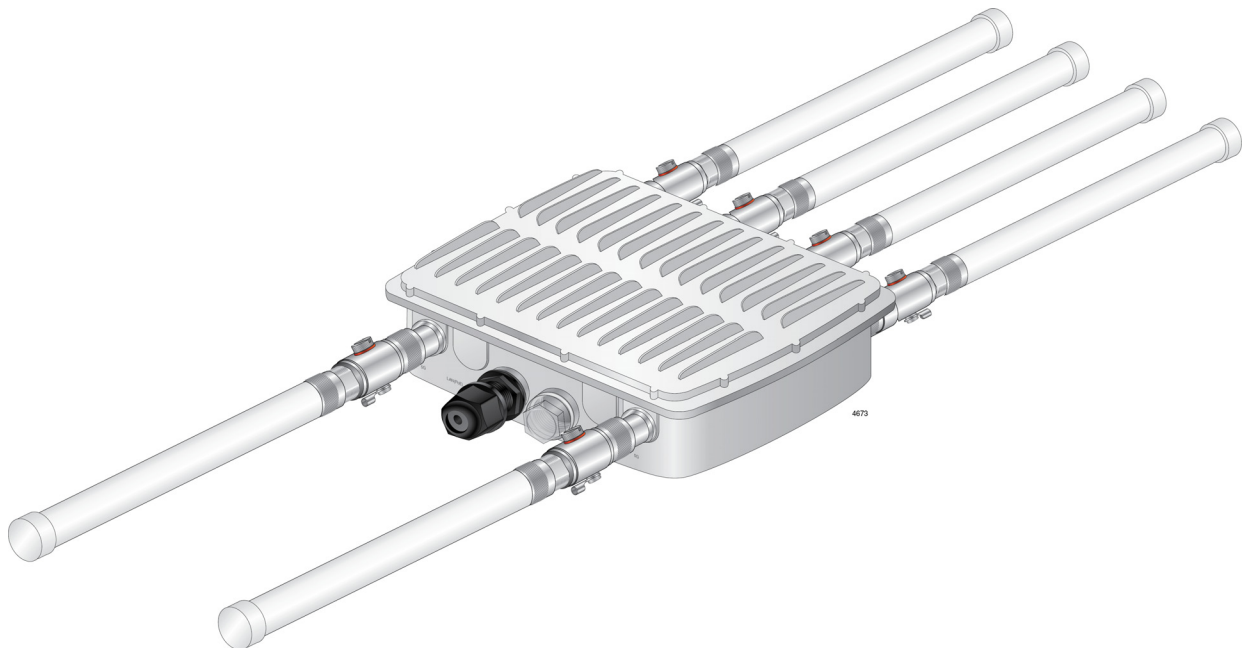

Figure 20. Installing the Antennas to the Access Point
7. Repeat this procedure to install the remaining antennas. See Figure 20.